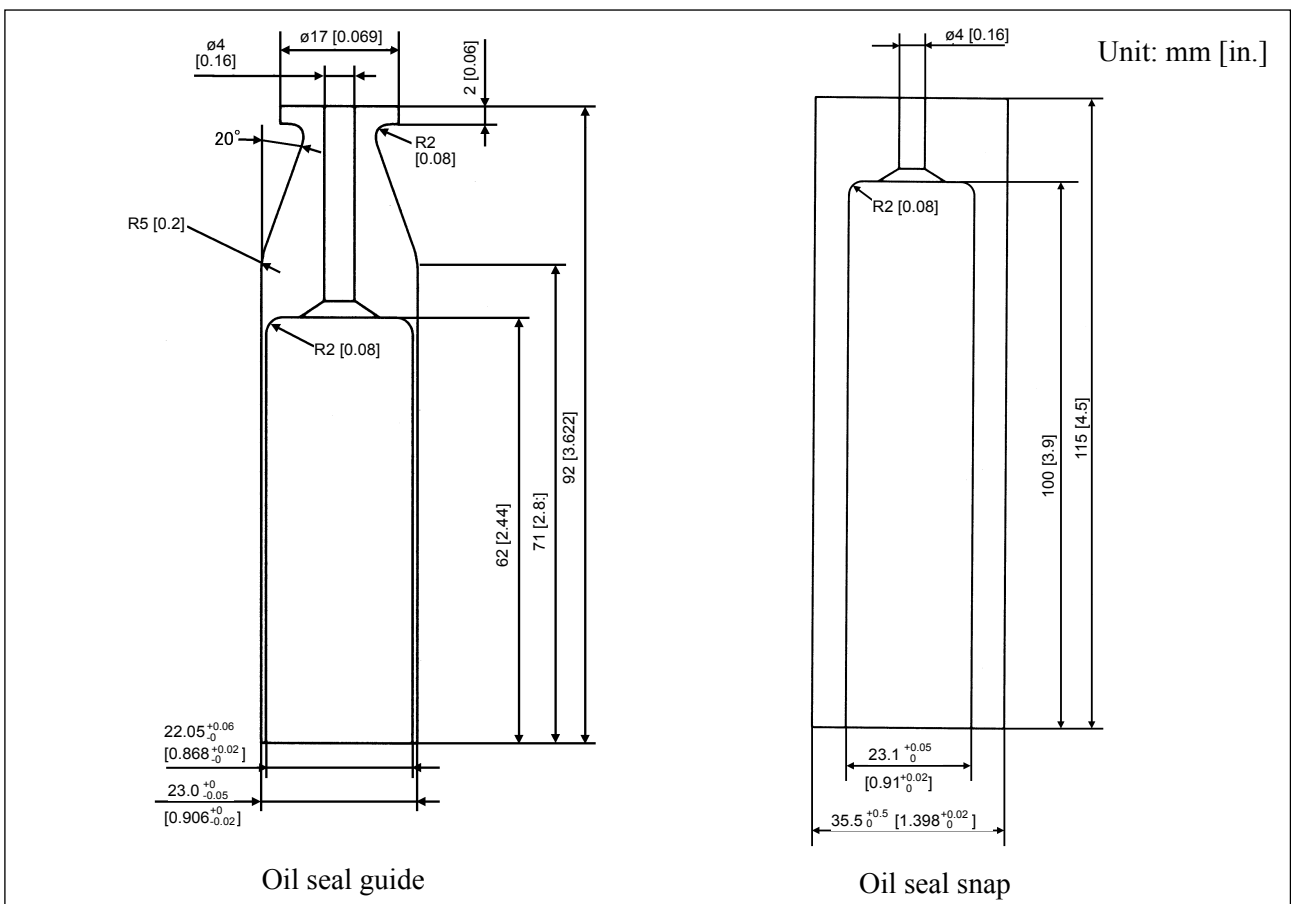

Fig. 3.422
- ②③ Remove the pump from the vise and put it on a work bench.
Apply grease on the area between the lips and on the outer diameter of a new oil seal (1). Install it on the oil seal guide shown in Fig. 3.422.